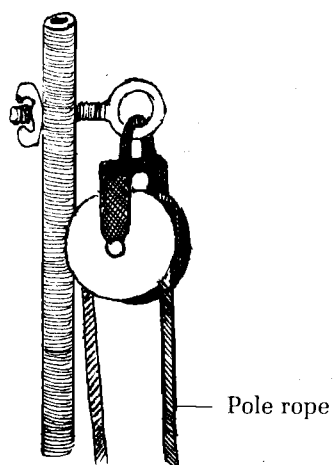

Figure 1
2. Attach a pulley at the top of each pole with an eye-bolt (Figure 1).